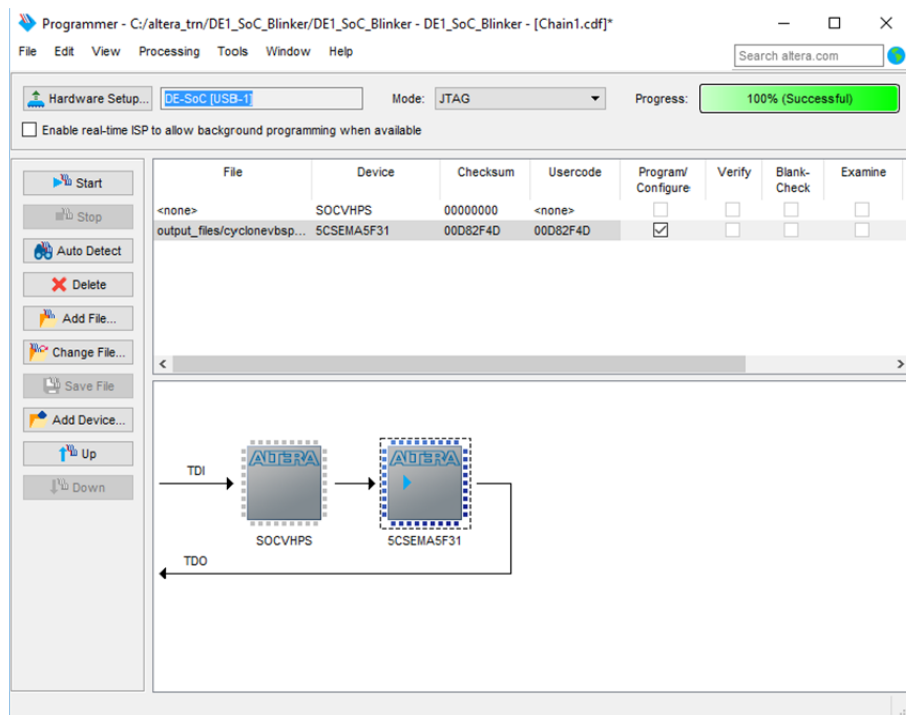

Fig. 104: FPGA configured using Programmer
10. Select the checkbox in the Program/Configure column, and a check will appear. The window should now look as shown in Fig. 104. If not, delete any extra device.
11. Press the Start button to program the FPGA. After programming the FPGA, the progress indicator should indicate 100% (Successful) as shown in Fig. 104. There should be no error message and, the LEDs will start blinking. Feel free to operate the blinker with the buttons and switches and verify its correct operation.